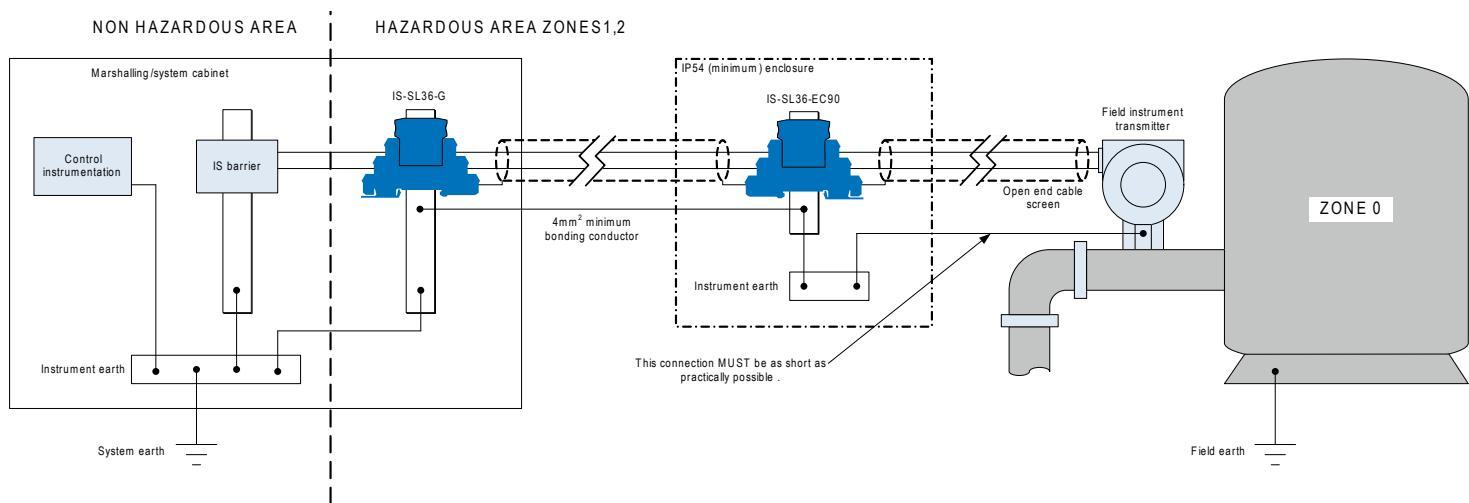

Figure 7: Typical hazardous area installation where field instrument body is earthed through pipework.
- 5.2** Figure 7 shows a typical hazardous area installation where the body of the field instrument is earthed through the metallic pipework. In this instance it is important to earth the Novaris slimline signal line protector to the instrument body. This connection MUST be as short as practically possible.